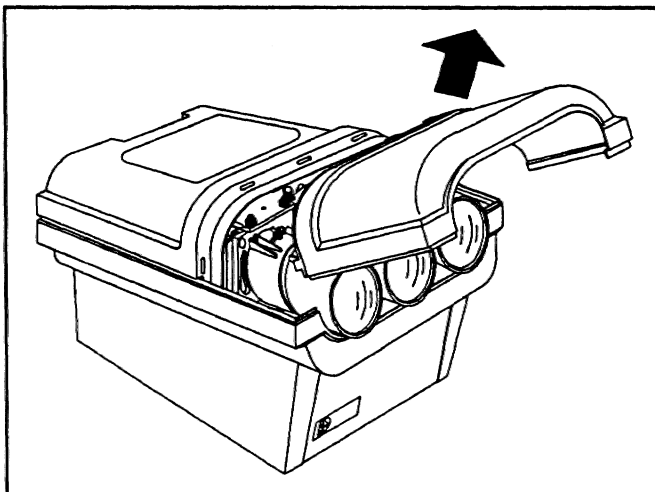

FIGURE 5-2. Front Top Cover Removal
- b) The front top cover is snap fit. Remove it by first pulling up the front and then sliding the tabs, on its back edge, out of the slots on the rear top cover. See Figure 5-2.